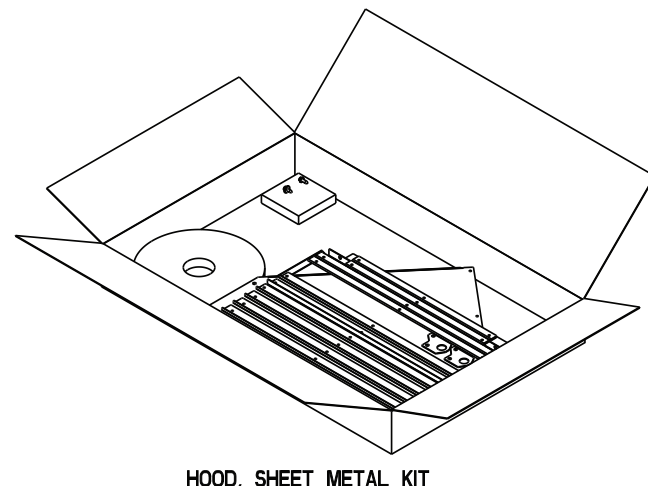

Fig. 66 — Power Exhaust Hood Sheet Metal Kit
3. Open each box. One will contain the hood parts. The other will contain the damper. See Fig. 66 and 67.